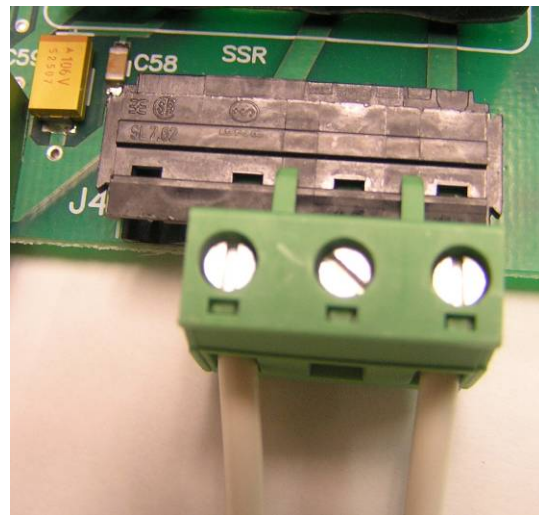

Figure 10: J4 Connector
- a. Plug into J4 on URC2 Board making sure to move the 3 pins of Phoenix Connector labeled J4 into the bottom of the J4 connector. The pins should line up as follows. Pin 1 should line up with Pin 2, Pin 2 should line up with Pin 3, and Pin 3 should line up with Pin 4 on the Phoenix connector and URC2 board respectively. As shown in Figure 10. See attached drawings for further clarification.